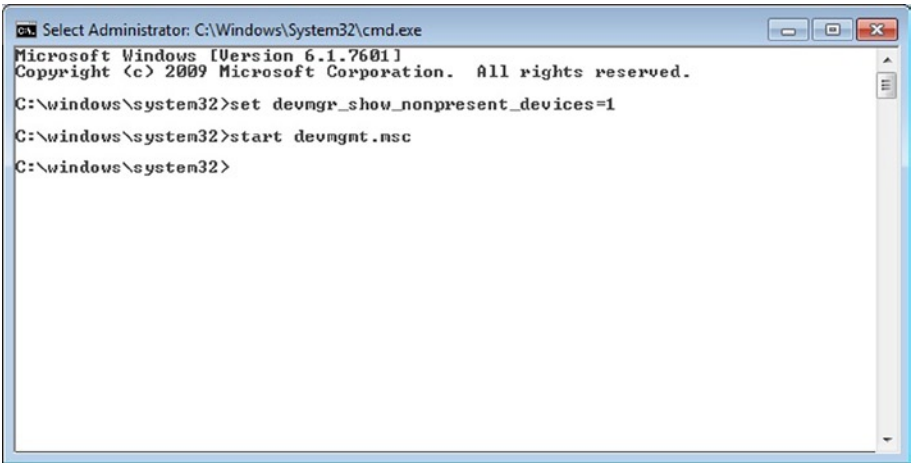

Figure 3-19. Starting the Device Manager via the Command Prompt
2. The Command Prompt will be shown. Type the following commands: `set devmgr_show_nonpresent_devices=1` and `start devmgmt.msc`. See Figure 3-19.